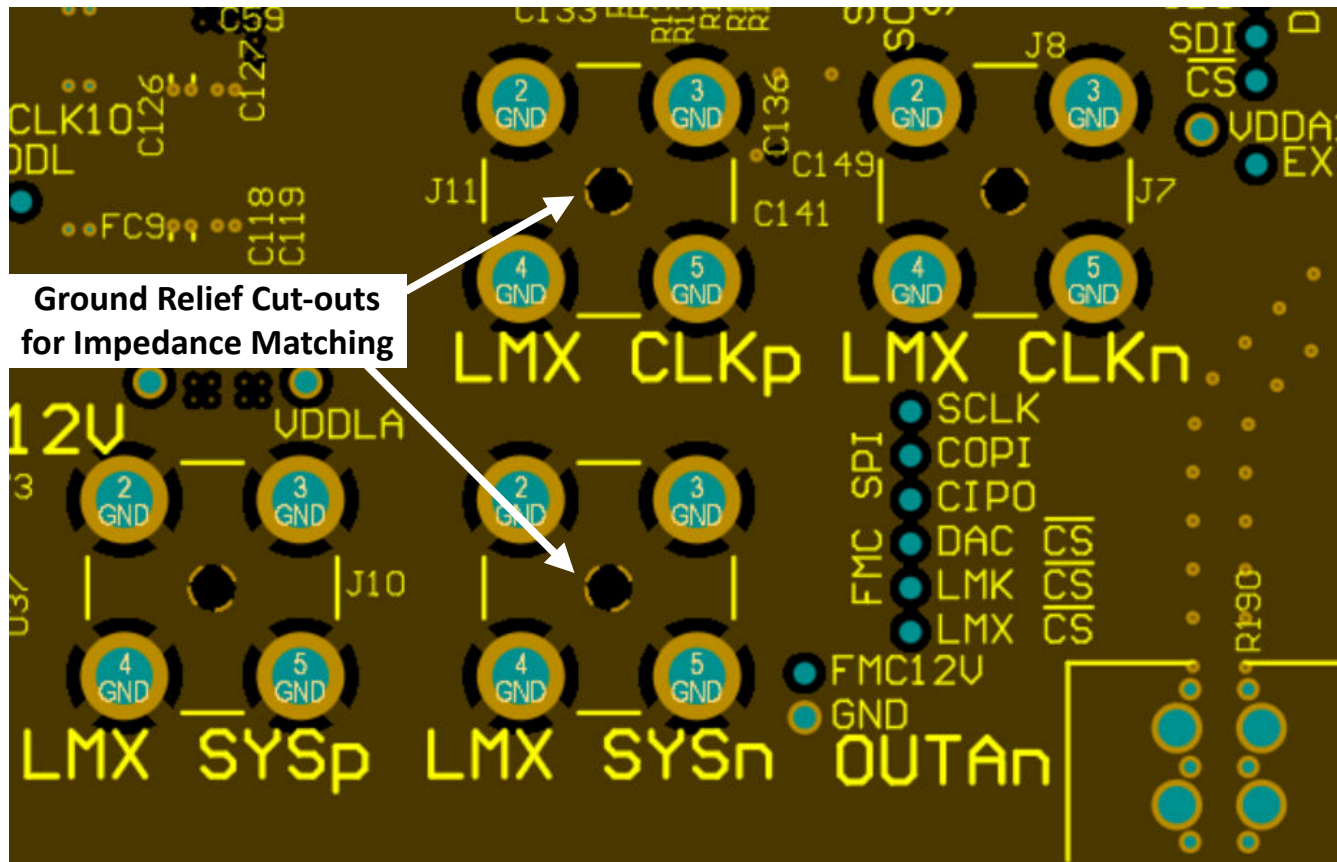

Figure 8-25. Ground Cut-out Below SMA Connector Center Pin
5. Incorporate any ground plane cutouts necessary at component landing pads, ie – SMA connectors, baluns, and so on, to avoid impedance discontinuities at these locations. Cut-outs below these landing pads on one or multiple ground planes to achieve a pad size or stackup height that achieves the needed 50Ω, single-ended impedance. See Figure 8-24 and Figure 8-25 as an examples.